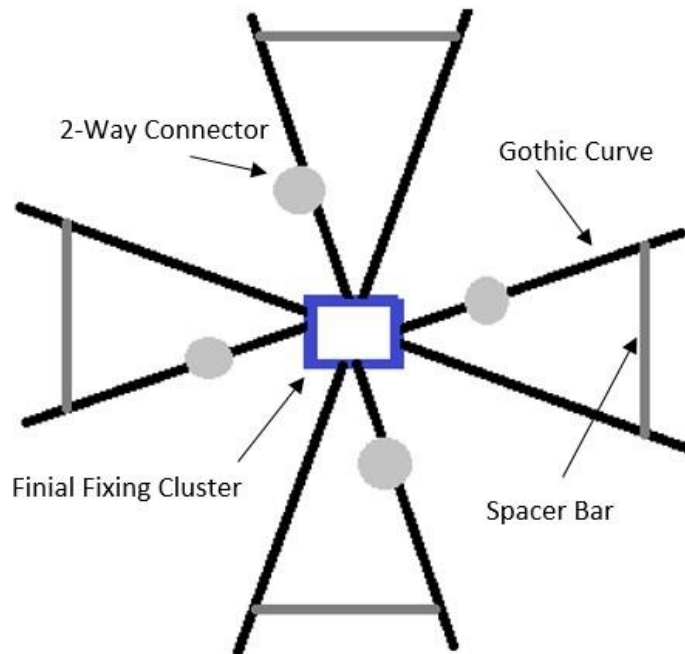

Figure 2: Position of the 2-Way connectors on the Gothic Curves
6. Once satisfied with the positioning of the curves tighten the screws on the finial assembly. Refer to Figure 2.